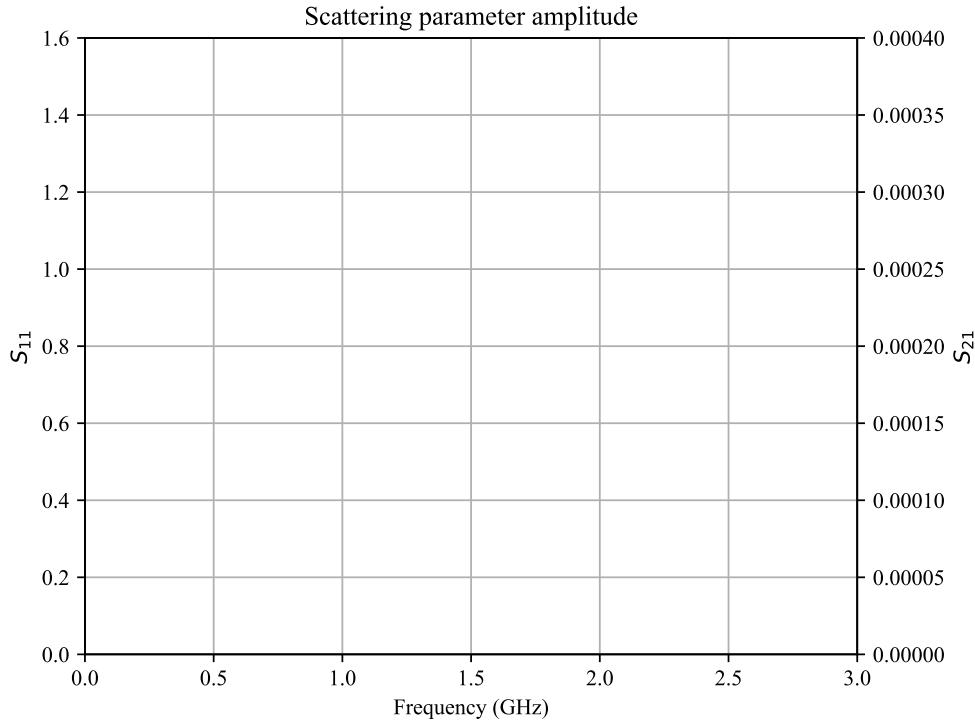

Figure 2: Expected scattering parameters (to be completed).
1. (No measurement needed here.) Complete fig. 2 with a plot of the expected $|S_{11}|$ and $|S_{21}|$ for an ideal VNA where both ports are left open. Plot both curves on the same plot; there are two y -axes. Please clearly label each curve.